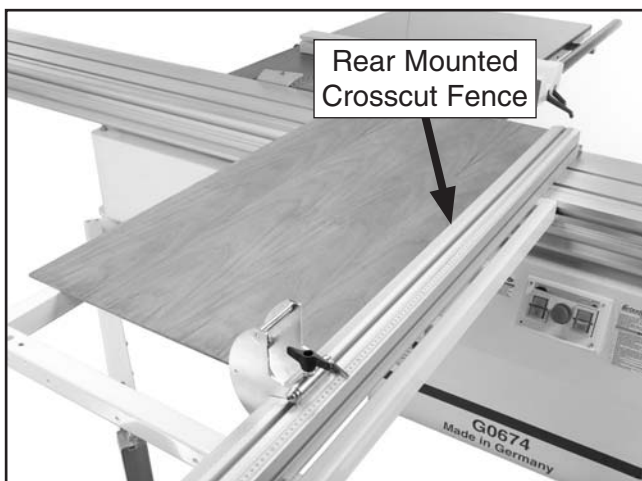

Figure 69. Crosscutting smaller panels.
Mounting the crosscut fence in the rear position (**Figure 69**) gives greater stability for crosscutting smaller panels.
4. Load the workpiece onto the table saw. The set up should look similar to **Figure 69**.